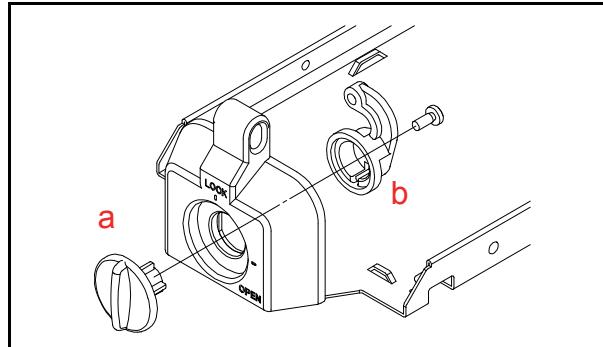

Figure 8 Plastic Latch Installation 1
1. Place the Door Lock A (Figure 8 a) from the front side of the lock installation hole.
2. Install the Door Lock B (Figure 8 b) from the inside of the lock installation hole while confirming that the Door Lock A Tab is in the vertical direction.